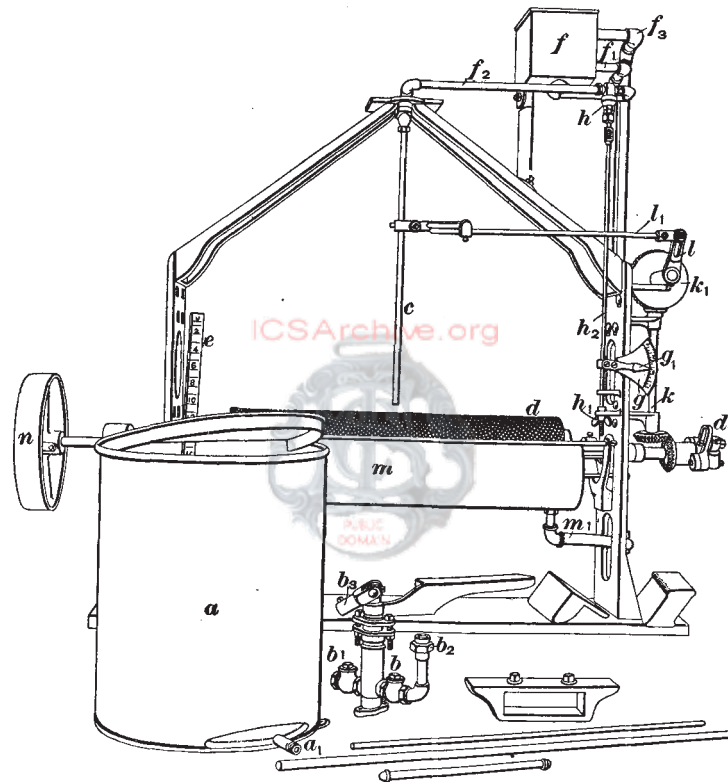

FIG. 1
The partly assembled parts of the Spencer oiler are shown in Fig. 1. It is practically impossible to show this machine set up as in operation, because the connections, etc. of such a machine as an oiler must necessarily vary to suit different circumstances and the needs of different mills. The large tank *a* that contains the supply of oil or emulsion is often located some distance from the picker where the wool is oiled, or it may be placed on the floor beside it.
As shown in Fig. 1, the oiler consists of an arch-like frame that, when attached to the frame of the picker, spans the feed-apron and carries the various parts of the machine, with the exception of the oil tank and pump, which are usually placed on the floor. The essential features of the machine
(5) State how oleine may be tested to determine if sulphuric acid is present.
(7) State the best method of making an emulsion.
(9) If an oil of unknown quality were on hand, how could its value as a lubricant for wool be determined?
(11) In a cotton-and-wool or silk-and-wool mix, what precautions in regard to oiling should be taken?
(12) What is the specific gravity of: (a) oleine? (b) hot-pressed olive oil?
(13) Name some of the characteristics that should be possessed by an oil suitable for lubricating wool.
(14) Suppose that stock is being oiled with a Spencer oiler and that it is desired to increase the amount of oil applied. After opening the supply valve *h*, Fig. 1, it is found that the reservoir *f* becomes empty; what is the proper remedy for this defect?